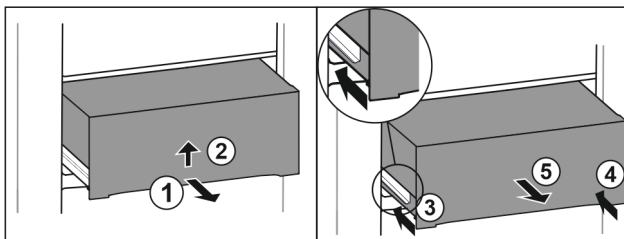

Fig. 35
- Pull out drawer half-way. Fig. 35 (1)
- Lift the drawer from the bottom. Fig. 35 (2)
- Insert left rail. Fig. 35 (3)
- Insert right rail. Fig. 35 (4)
- Remove drawer to the front. Fig. 35 (5)